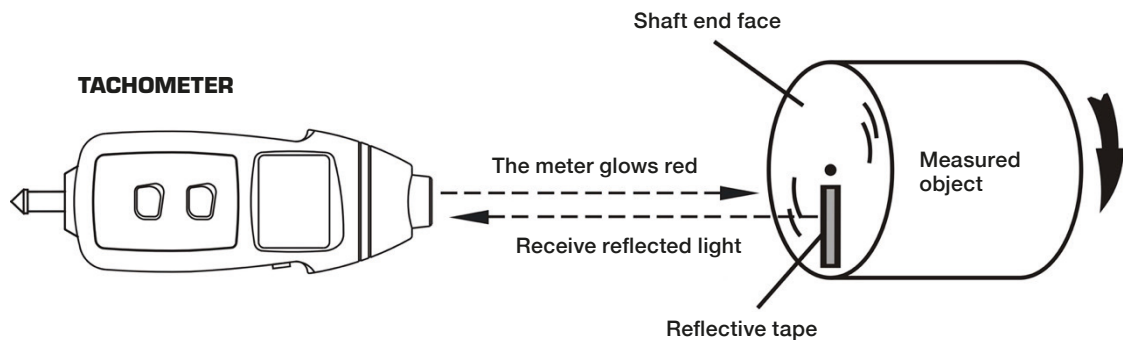

Fig. 7.
- b. Press the [Measuring Key] on the right to make the red light beam irradiate the measured target vertically (the part where the reflective paper is attached), the measurement starts, and the measured value is displayed (see Fig. 7).
Note: When sticking reflective tape, the surface of the shaft should be smooth and clean. See the schematic as shown in Fig. 7.